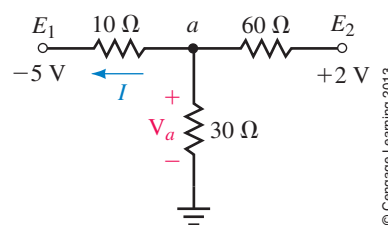

FIGURE 9–77
4. Using superposition, find the current through the 480-Ω resistor in the circuit of Figure 9–78.